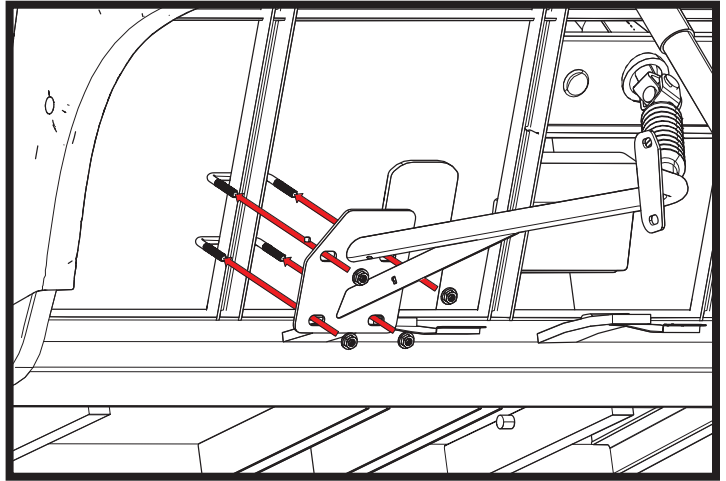

Fig. 7
Using two (2) square u-bolts and four (4) m10 flange nuts, install passenger side mounting arm (has a “P” cut into the bracket) oriented as shown to the frame member shown in Fig. 7. The u-bolts will slide between the frame member and the floor mat to go into place. Only finger tighten these bolts as the position of the mounting arm will need to be adjusted once the brushguard is fully assembled.